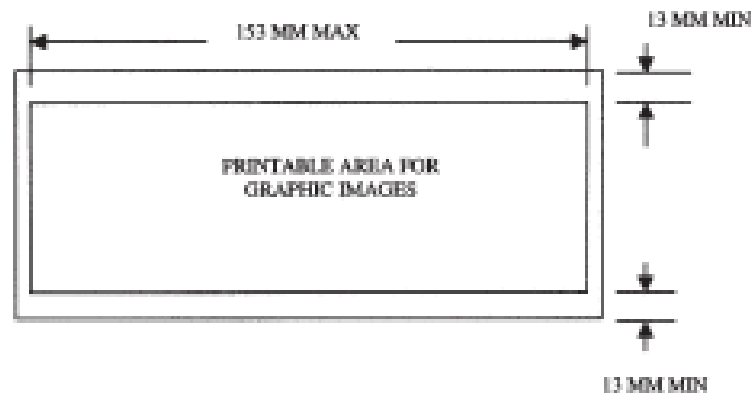

FIGURE 2
- 6.1 The non-thermal side may be preprinted with multi colored graphic images. All printing on the non-thermal side must be within the area shown in Figure 2.